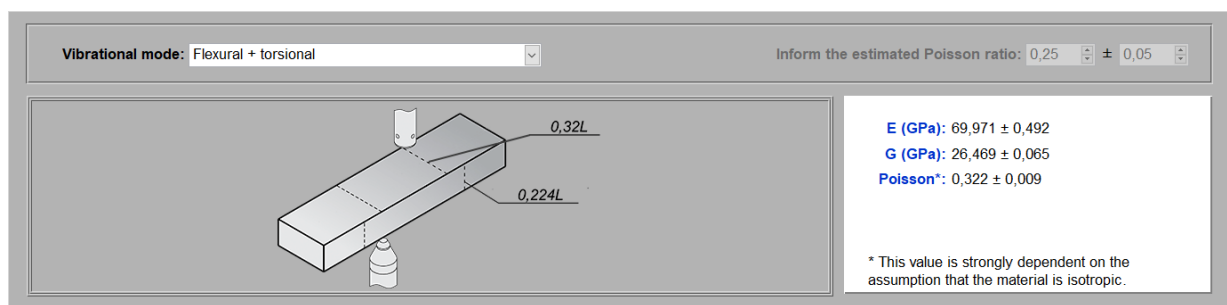

Figure 50 - Sonelastic® Software module showing the selection of the “Flexural + torsional” option.
“Flexural + torsional” (Fig. 50): allows calculating the Young’s modulus (E), the shear modulus (G), and Poisson’s ratio. Flexural and torsional frequencies must be correctly selected from the frequency list. *Note: The specimen excitation and signal acquisition must be applied to points favoring such vibration modes (verify item 7.2.2 Excitation and acquisition modes).*